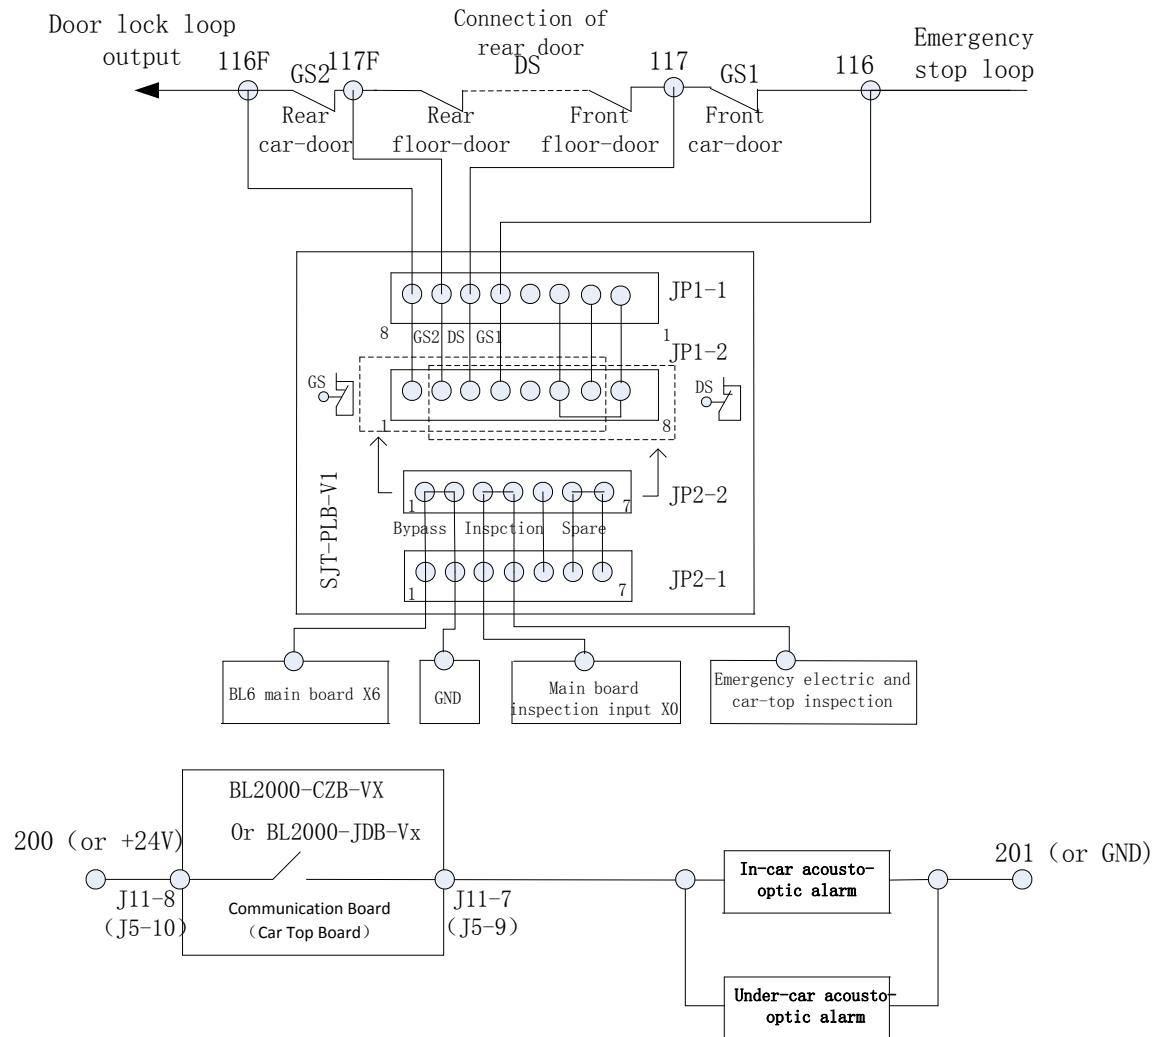
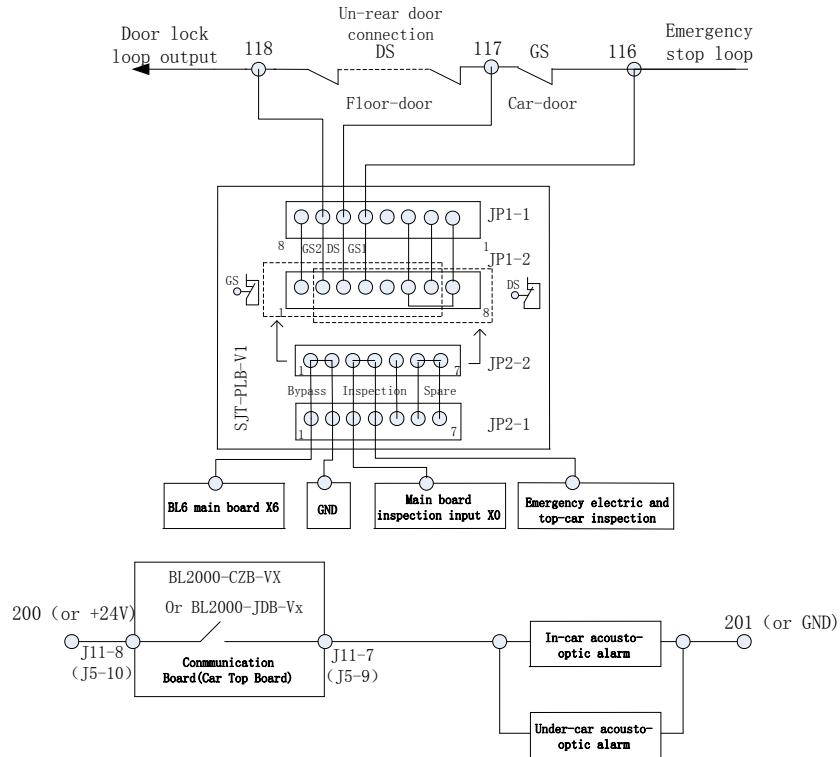

Figure F12.6 BL6-U series elevator integrated controller rear door bypass plan
Figure F12.7 BL6-U series elevator integrated controller un-rear door bypass plan
1. Using an SJT-PLB-V1 dedicated bypass circuit board, such as figure F12.6 and figure F12.7, to use a 7 pin JP2-2 and a 8 pin JP1-2 plug-in with a 7 pin plug (out of factory) to achieve bypass operation.